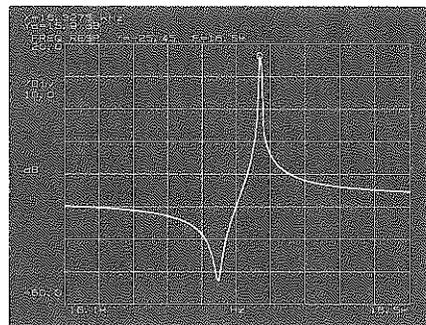

Figure 4-3
- 7. Start** Press the yellow **START** key. The measurement will be displayed as the sweep progresses from start to stop. The linear sweep result will look like the display shown in Figure 4-3.